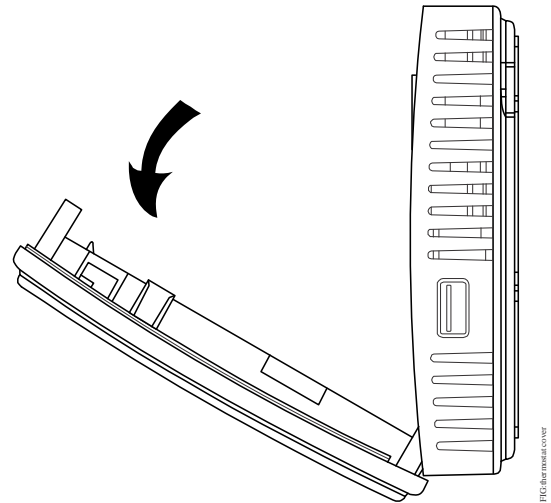

Figure 3: Removing the Thermostat Controller Cover
2. Pull the top edge of the cover and open the thermostat controller as illustrated in Figure 3.